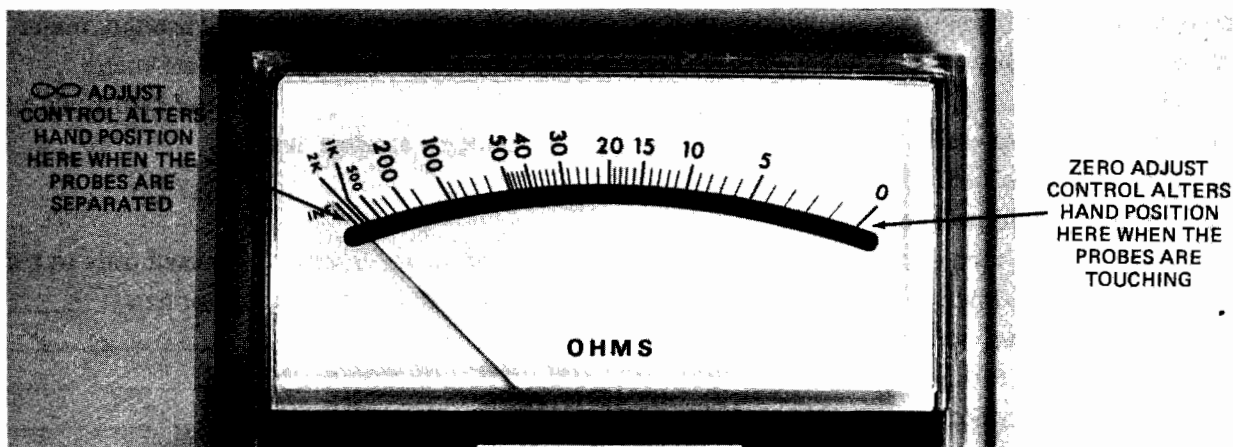

Fig. 2-3-3
- b. Set ohms range switch to R x 1 position. If meter indicating hand is pointing to infinite or highest resistance position at this time, meter is ready for testing. If VOM being used has two adjust controls, one is designed to change position of deflection hand at infinite end of scale. Term "infinite adjust" or " ∞ adjust" is a label normally associated with this control. Do not confuse this with "ohms adjust" control which alters position of deflection hand at zero end of scale. See Fig. 2-3-3.